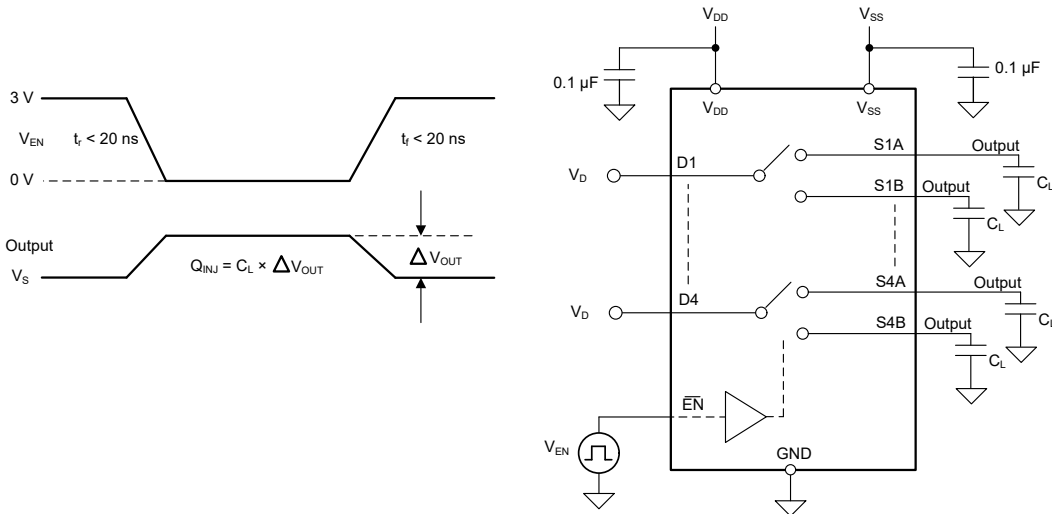

图 6-9. Charge-Injection Measurement Setup
The TMUX7234 has a transmission-gate topology. Any mismatch in capacitance between the NMOS and PMOS transistors results in a charge injected into the drain or source during the falling or rising edge of the gate signal. The amount of charge injected into the source or drain of the device is known as charge injection, and is denoted by the symbol  $Q_{INJ}$ . 图 6-9 shows the setup used to measure charge injection from source (Sx) to drain (D).